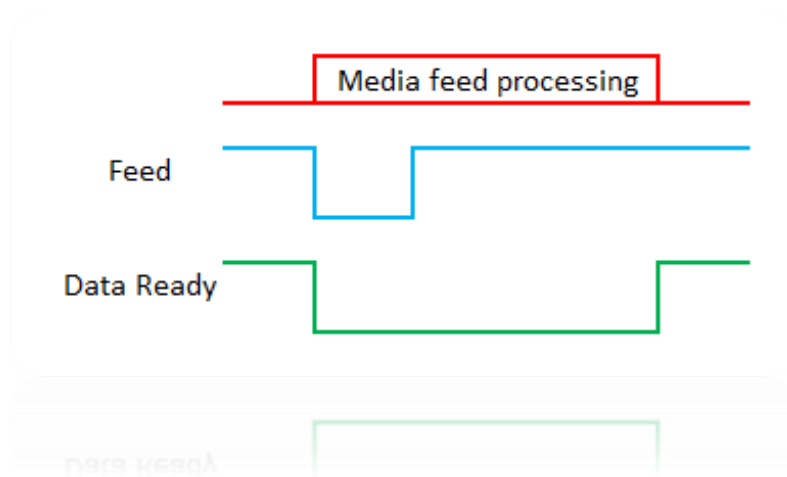

Figure 5
- The timing chart is shown in Figure 5.